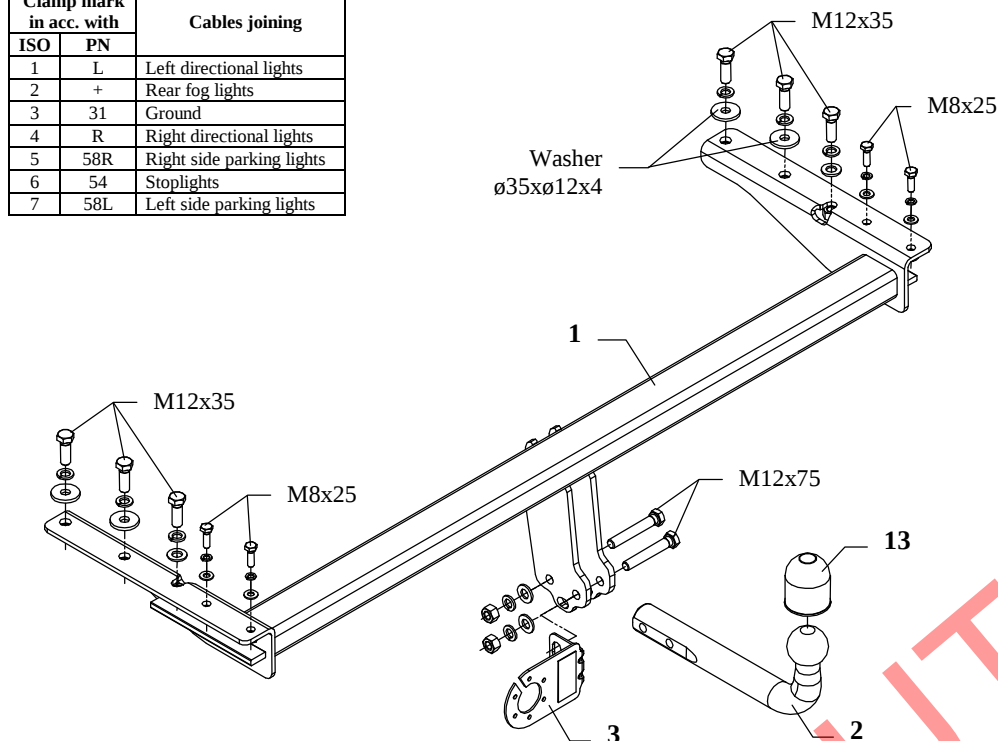
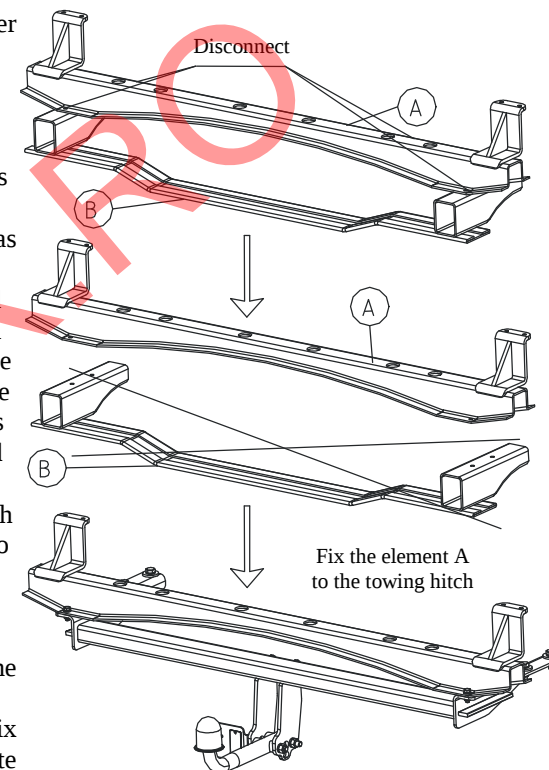

Fig. 1
Fig. 2
4. Disconnect the metal fulfilment as showed on the fig. 2.
5. Element B (see fig. 2) **not used** anymore, whereas element A (see fig. 2) one ought to fix to the main bar of the towing hitch (see fig. 1, pos. 1) using bolts M8x25mm (pos. 6) as showed on the fig. 2.
6. So prepared towing hitch fix with the bumper, which one ought to slip into chassis members, then fix using bolts M12x35mm (pos. 5) as showed on the fig.
8. To so prepared towing hitch fix tow-ball (pos. 2) and socket plate (pos. 3) by bolts M12x75mm (pos. 4) from accessories.